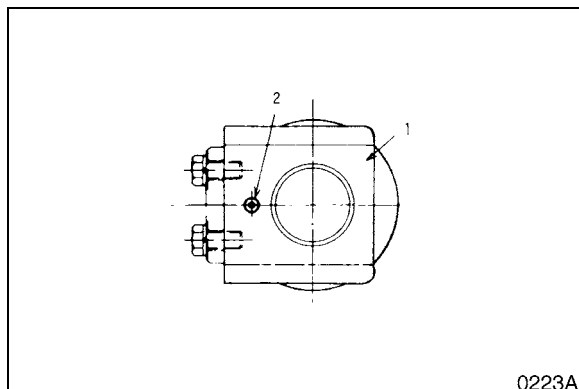

Figure 18
1. Remove plug (2, Figure 18) and drain oil from roller assembly (1).